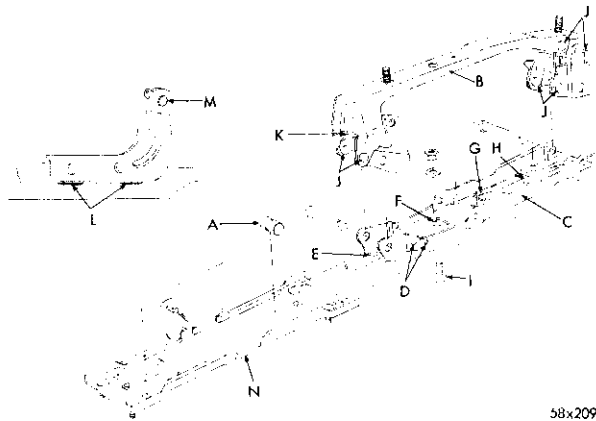

Fig. 63—Seat Guide (Disassembled View)
This condition is possibly due to roller (A), (Fig. 63) being out of position.